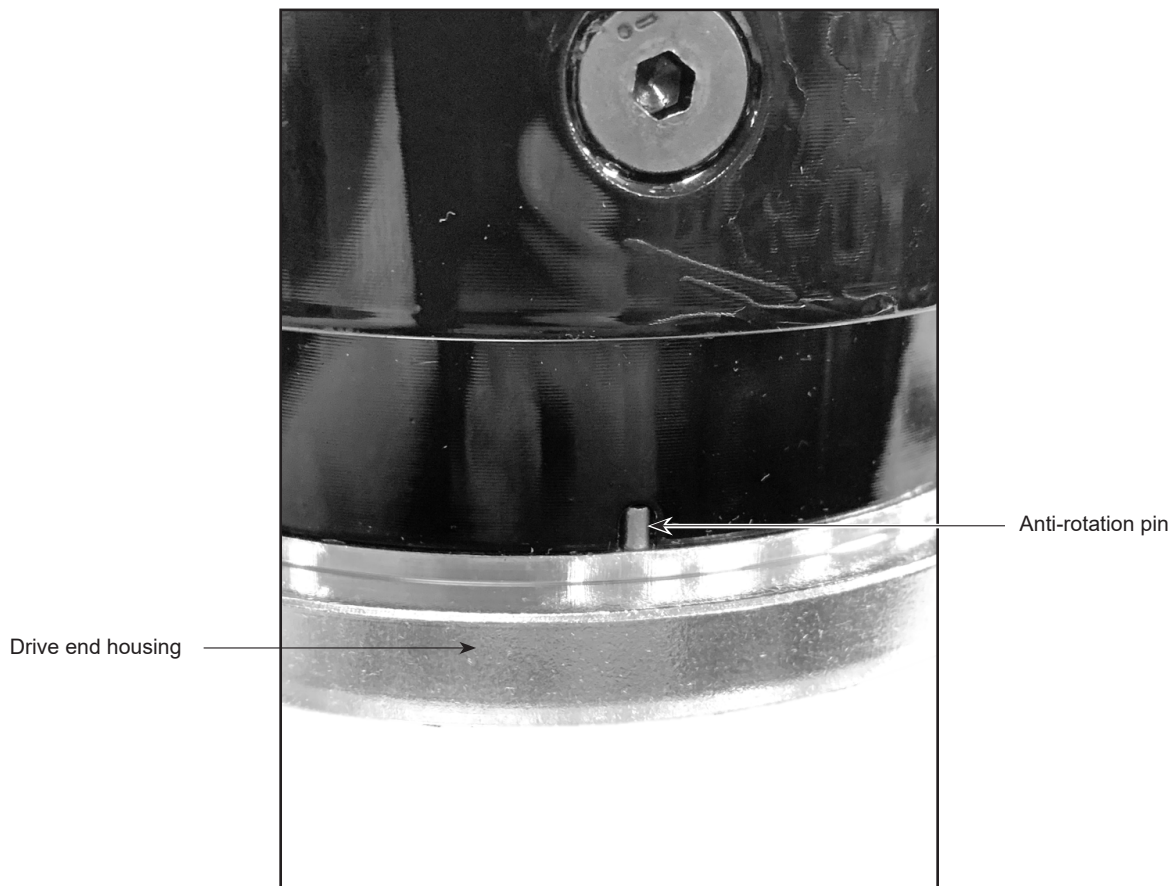

Figure 6-8 - Anti-Rotation Pin
- (8) Carefully Install the drive end housing and armature assembly (Fig. 6-2) into the starter housing. Ensure the anti-rotation pin aligns with notch in the starter housing while seating. See Fig. 6-8.